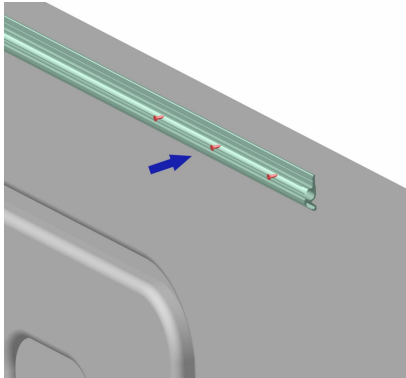
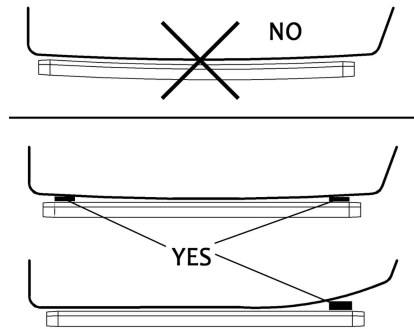

Figure D4
Figure D5
3.1 Take out the fabric rail and fix it on the outside of the vehicle body with screws B (Figure D4). The fabric rail should be installed horizontally, and if not, it should be leveled (the cushion block should be provided) (Figure D5). If the vehicle body is pre-installed with a fabric insertion slot, this step can be omitted and the fabric rail not need to be used.